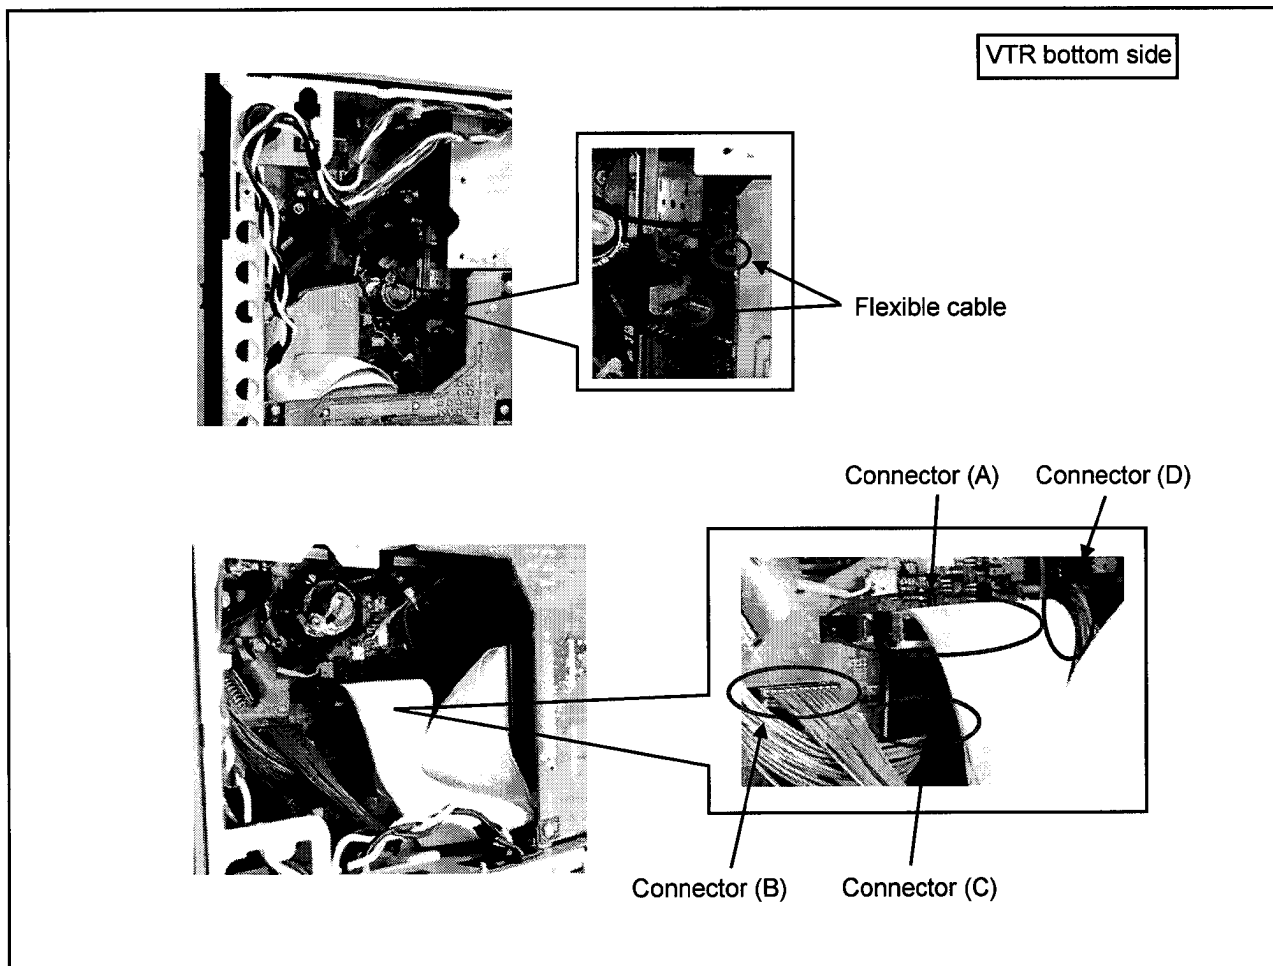

Figure 14-2
5. Disconnect the 2 flexible cables (on the RF CUE P.C.Board) as shown in figure 14-2.
6. Disconnect the 4 connectors (A), (B), (C) and (D) as shown in figure 14-2.